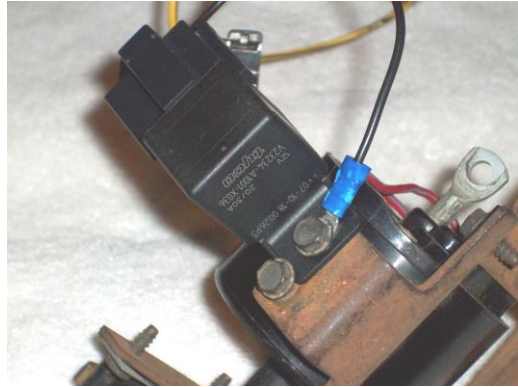

Fig 6) Relay attached to mounting bracket.
- Black wire → Ground. Use one of original relay mounting screws to secure the ground wire. You could add a star washer to this area, but it is probably not necessary if tightened securely. As shown in Fig 6, the second screw can be installed for safe keeping in the event an original relay is ever found and reinstalled.